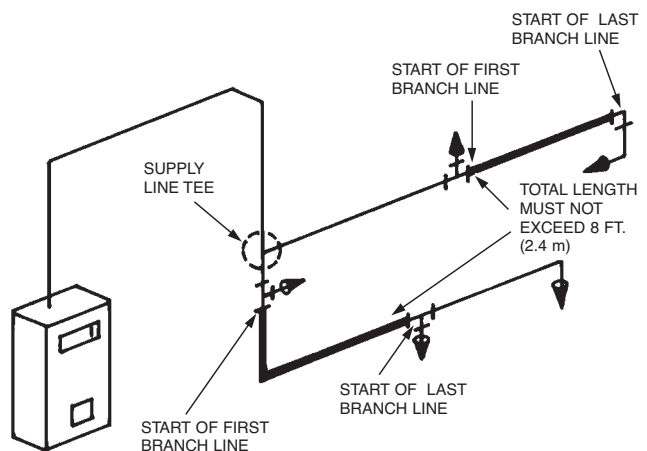

FIGURE 91
6. The pipe length between the start of the first branch line and the start of the last branch line must not exceed 8 ft. (2.4 m). When the supply line is split, the **combined length** of both legs of the supply line (start of first branch line to start of last branch line) must not exceed 8 ft. (2.4 m). See Figure 91.